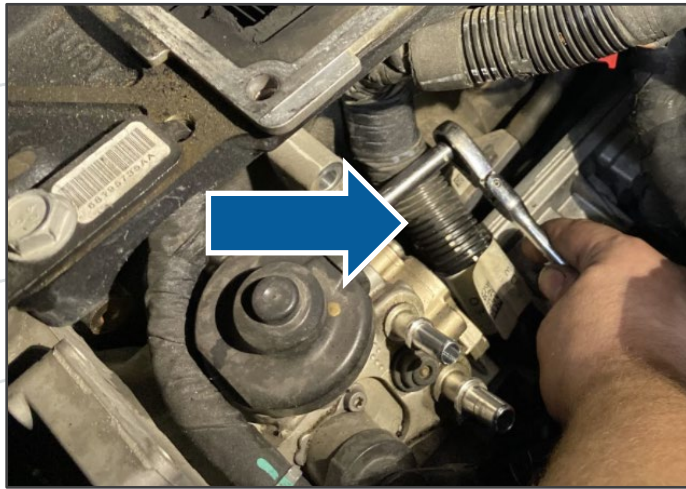

Figure 12
13. Remove the CP4 tail support (Figure 12):